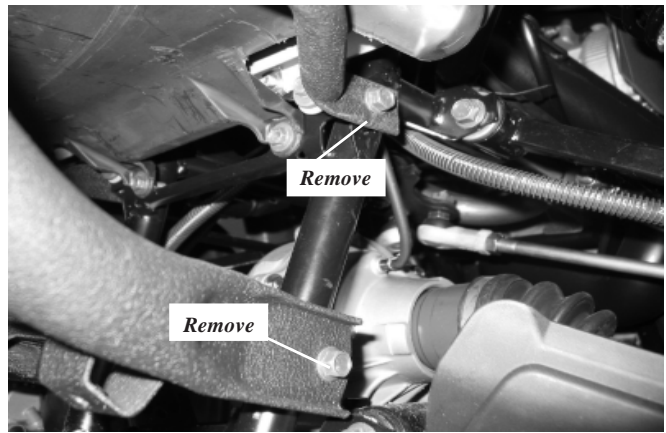

Figure 5
6. Remove bolts securing grab bar to frame. (figure 5)